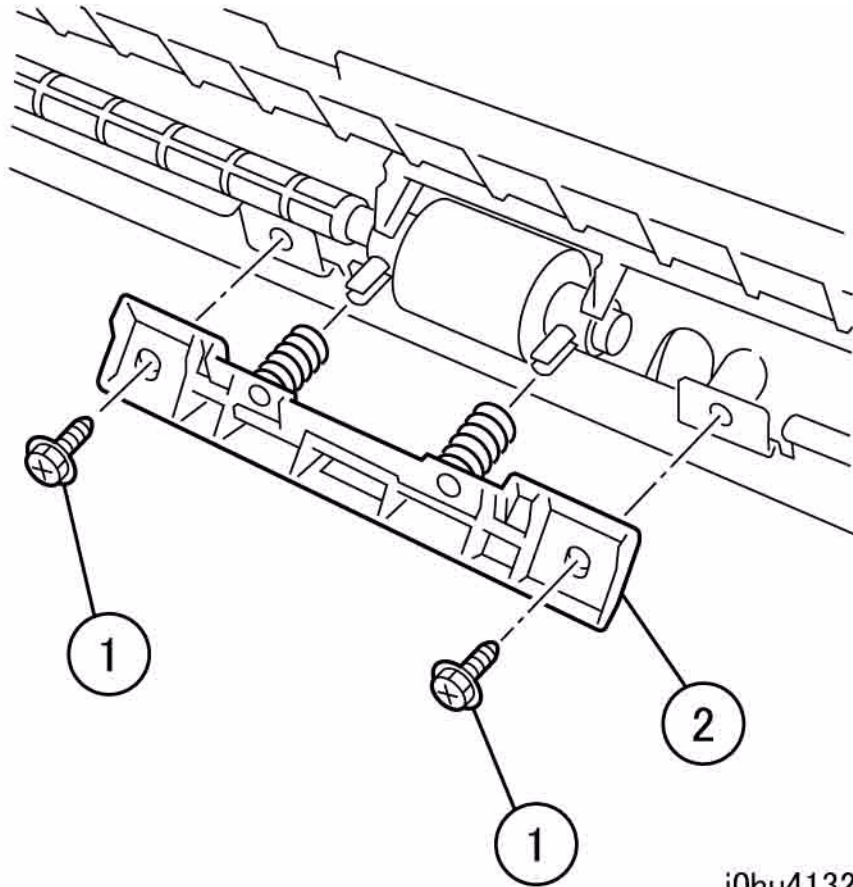

Figure 2 Remove the Plate
3. Remove the Plate (Figure 2).